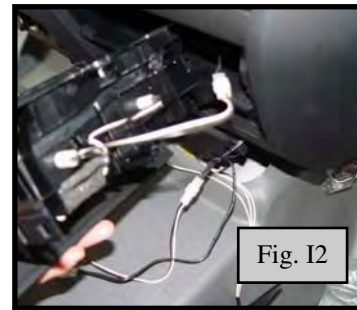

Fig. I2
2. Bundle up any excess wires and secure with cable tie. (Fig. I2)